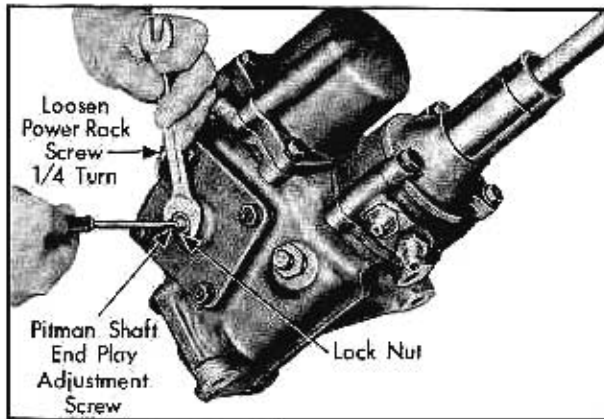

Fig. 7-7 Adjusting Pitman Shaft End Play
1. Adjust pitman shaft end play screw until pull through center is  $1/2$  to 1 lb. greater than pull at one full turn off center, Fig. 7-7.